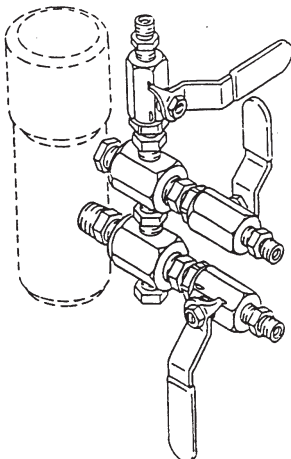

FIGURE 2
4. Multiple Gun Operation - The PowrTwin 4500™ is engineered to handle up to 3 guns with 0.19" tips. When using more than two guns, make sure the second gun hookup outlet is plugged. Connect the multiple gun manifold to the single gun outlet. These manifolds are for either 2, 3, or 4-guns and have shut off valves. Connect a hose and gun to each outlet. See Figure 2.